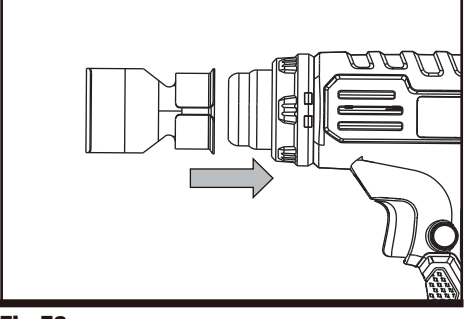

Fig.E3
3) Deflector nozzle (See fig. E3)